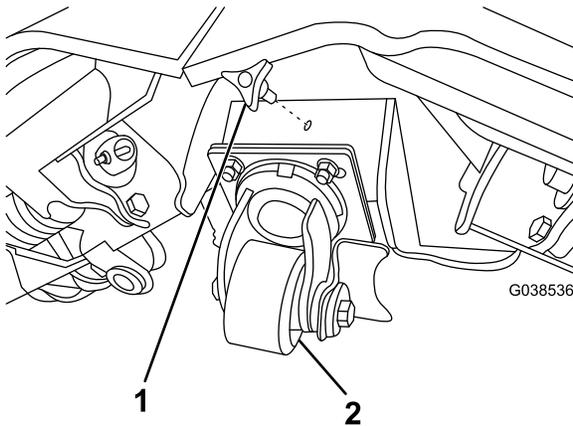

Figure 11
6. Slide the center caster shoe onto the plow center bottom plate, ensuring that the plastic knob faces forward (Figure 11).
5. Partially insert the plastic knob on the center caster shoe into the plow center bushing (Figure 11).